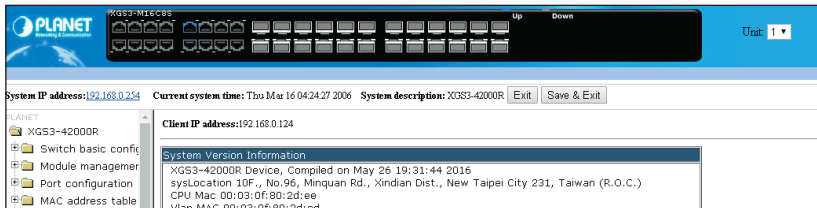

Figure 12-2 Web Main Screen of XGS3 Chassis Switch
- After entering the password, the main screen appears as Figure 12-2.